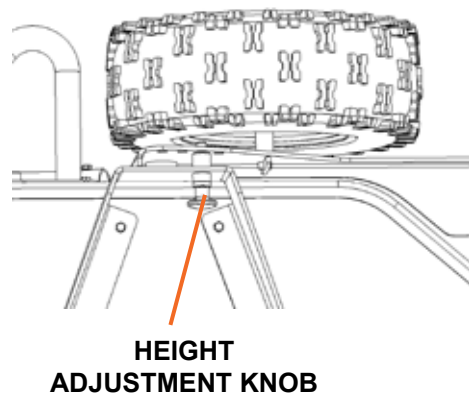

Figure 10
1. To change the cutting height, disengage blades and turn off engine, apply pressure to the height adjustment while pulling the spring-loaded adjustment knob out. Then re-position and release the knob to the desired height in one of the four adjustment notches (see Figure 10). Repeat for the opposite side at the same height level.